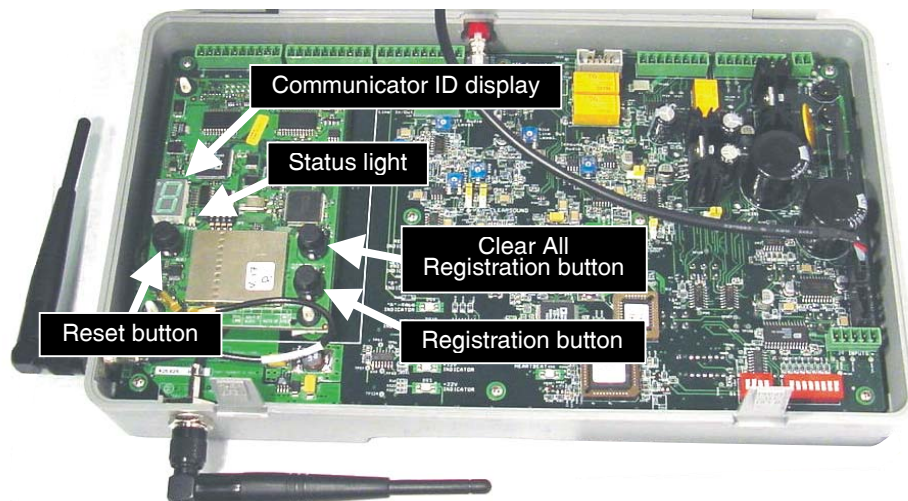

Figure 6. Registration buttons and indicators
When a Communicator is replaced, the old one remains in memory. If the maximum number of 15 is exceeded, all current registrations must be cleared, and all active Communicators must be re-registered. To clear all current registrations, press the "Clear All Registration" button and the "Reset" button simultaneously. Refer to Figure 6 below. Continue holding the "Clear All Registration" button after releasing the "Reset" button, until the clear code "c" (lower case) appears on the Communicator ID display. All active Communicators can then be registered, one at a time.
- Open the base station and press the registration button shown in Figure 6.
- If no Communicators are powered on, the status light shown in Figure 6 will be blinking red. If any Communicators are powered on, the status light will be blinking green.